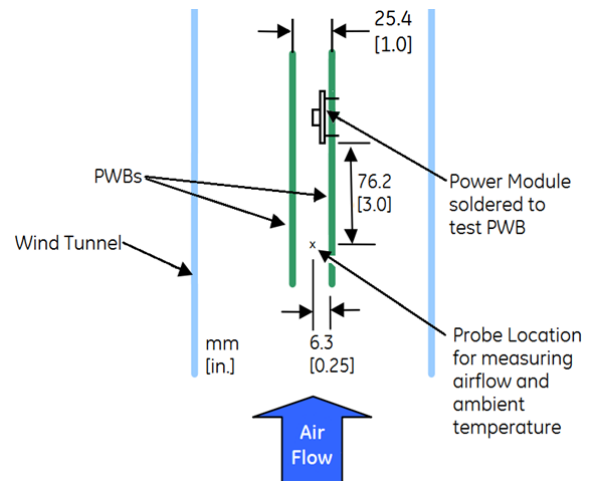

Figure 17. Thermal derating test setup.
The JNCW016A0R module provides a non-latching over temperature protection. A temperature sensor monitors the operating temperature of the converter. If the reference temperature,  $T_{ref1}$ ,  $T_{ref2}$  (see Figure 17) exceeds a threshold of 103 °C (typical), the converter will shut down and disable the output. When the base plate temperature has decreased by approximately 20 °C the converter will automatically restart.